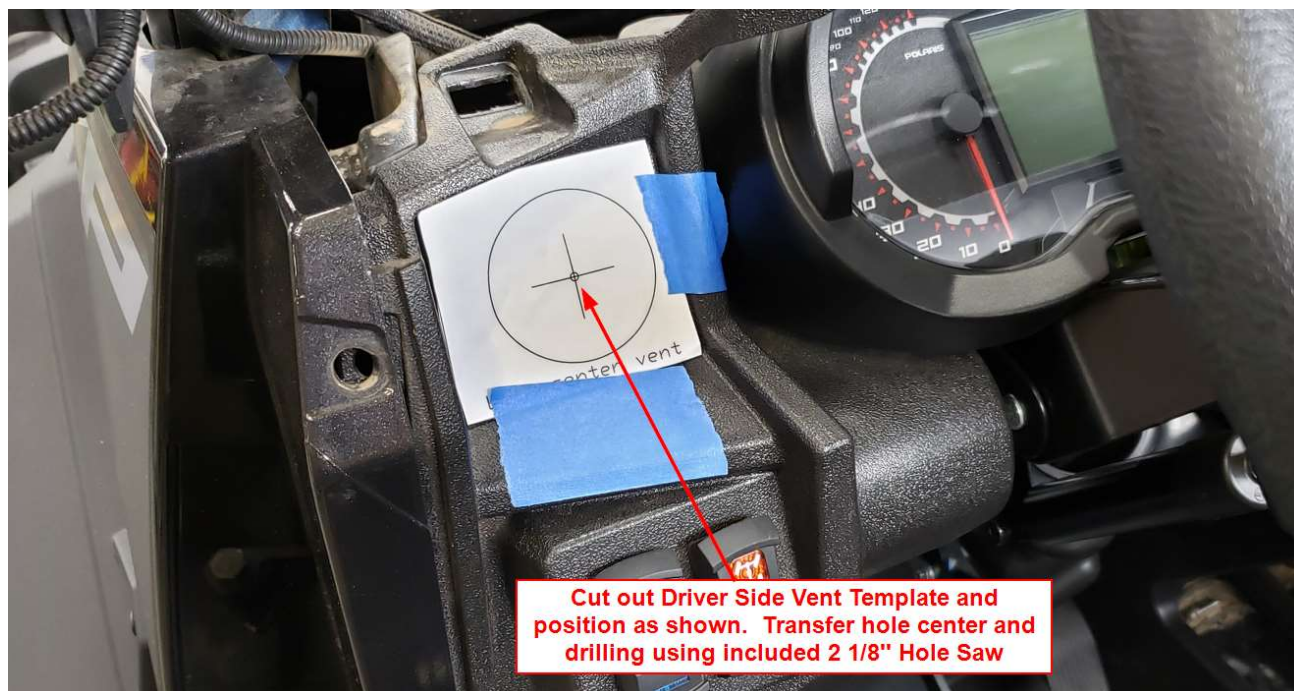

Figure 9
- b. Cut out the Driver and Passenger Side Vent Templates and position them as shown in Figure 8 and Figure 9. Mark the hole centers and drill using the 2 1/8" Hole Saw included in the kit. Debur as necessary and cut the "V" shaped notch as mentioned before.